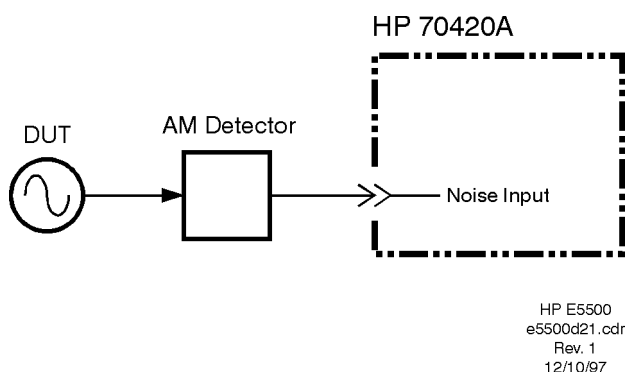

Figure 12-11 Double-sided Spur AM Noise Measurement Setup Method 1, Example 1
- 1 Connect circuit as shown in Figure 12-11, and tighten all connections. If the Agilent 70420A Option 001 or Agilent 70427A is available, use one of the connection diagrams described in “AM Noise Measurement Block Diagrams” on page 12-3.